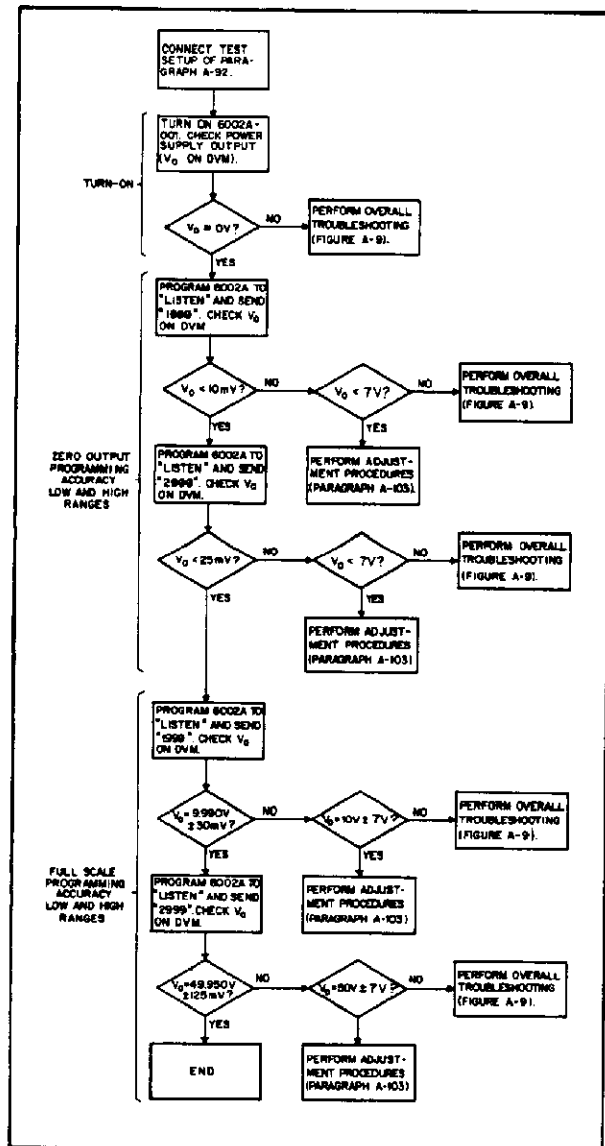

Figure A-8. Checkout Procedures Flow Chart
**A-91** The procedures given in the flow chart of Figure A-8 are used to check operation of the 6002A-001 power supply when it is initially received. If a malfunction is detected during checkout, the procedures determine whether adjustment or troubleshooting is required. The procedures in Figure A-8 provide the following checks: